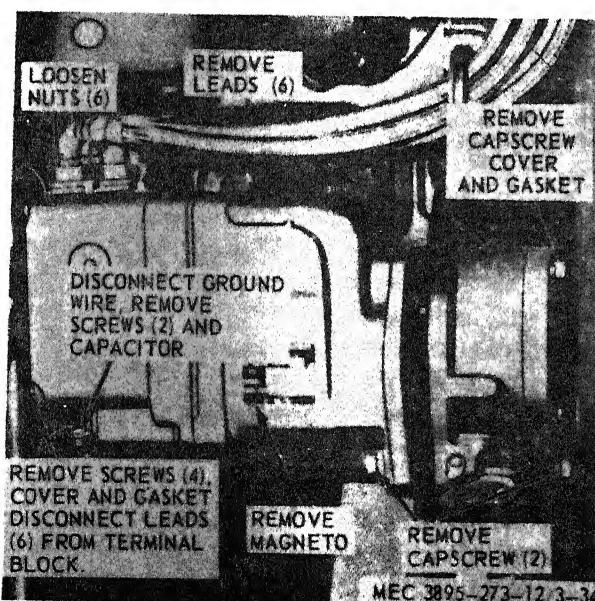

Figure 3-31. Magneto, removal and installation.
- (1) Disconnect the ground wire (fig. 3-31).
- (2) Remove the magneto from the engine as instructed on figure 3-31.
f. *Timing and Installation.* Aline the timing marks as shown on figure 3-33. Install the magneto in reverse of the instructions on figure 3-31.